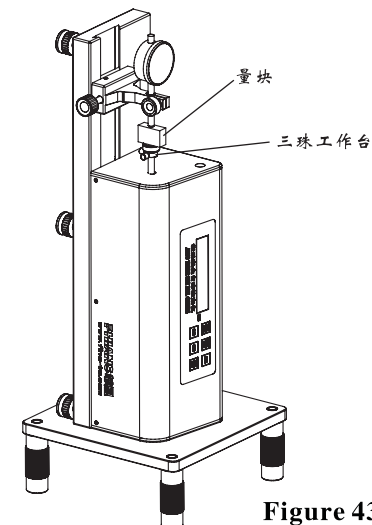

Figure 43
b. After fastening the screws, place the whole organ in the way showed in following figure, and install the 3-bead working platform on the side level of the instrument as showed in Figure 43, and gauge block test can be conducted on this instrument.